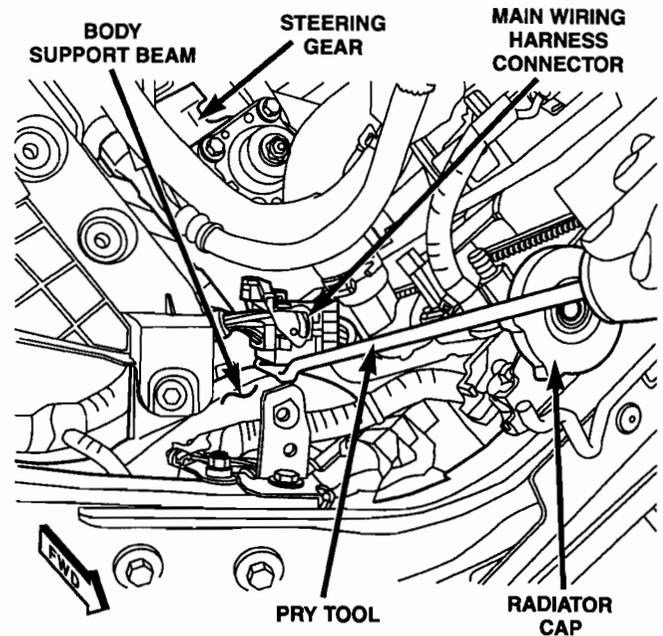

Figure 3
4. Separate the main wiring harness connector from the body support beam (Figure 3).
- 19. Attach the main wiring harness connector to the body support beam (Figure 3).